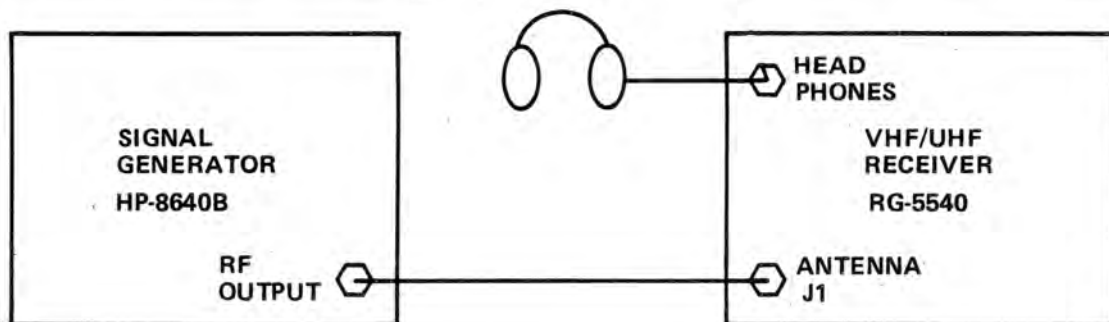

Figure 5-1. Receiver Tuning Test Set-up
1. Connect the signal generator to ANTENNA-J1 connector on the rear panel as shown in Figure 5-1.